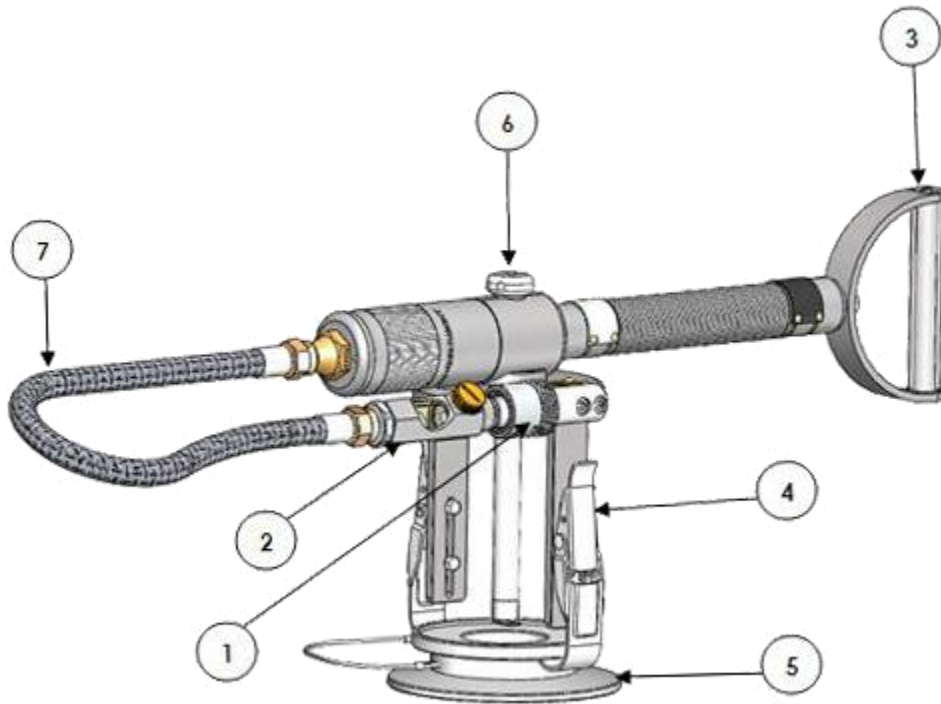

Fig 1 Engine Oil Dispensing Pump
TABLE 1 KEY TO FIGURE 1
- 16 The seals are available in kit form (see fig 1).